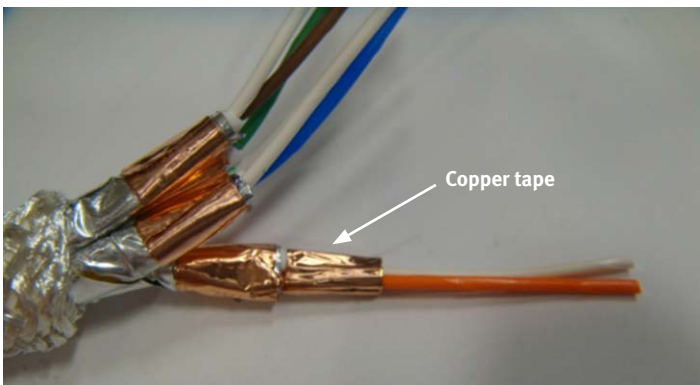

Figure 14: Taping the insulation
10. Cut four 0.4-inch long pieces of copper tape, and wrap one piece around the newly exposed insulation of each pair (Figure 14).